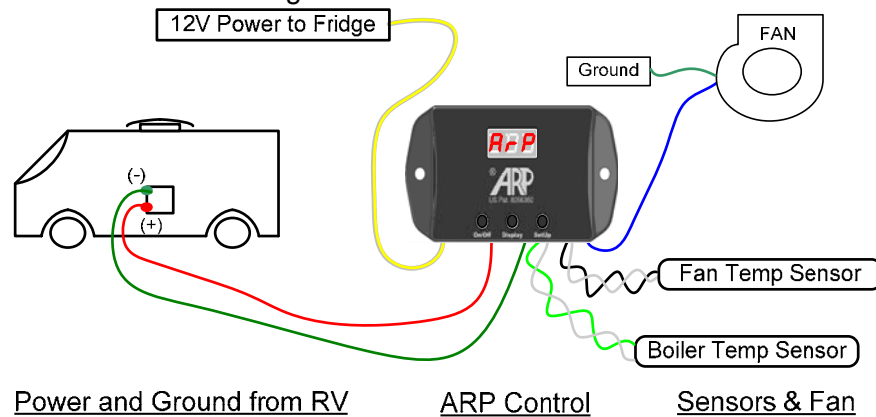
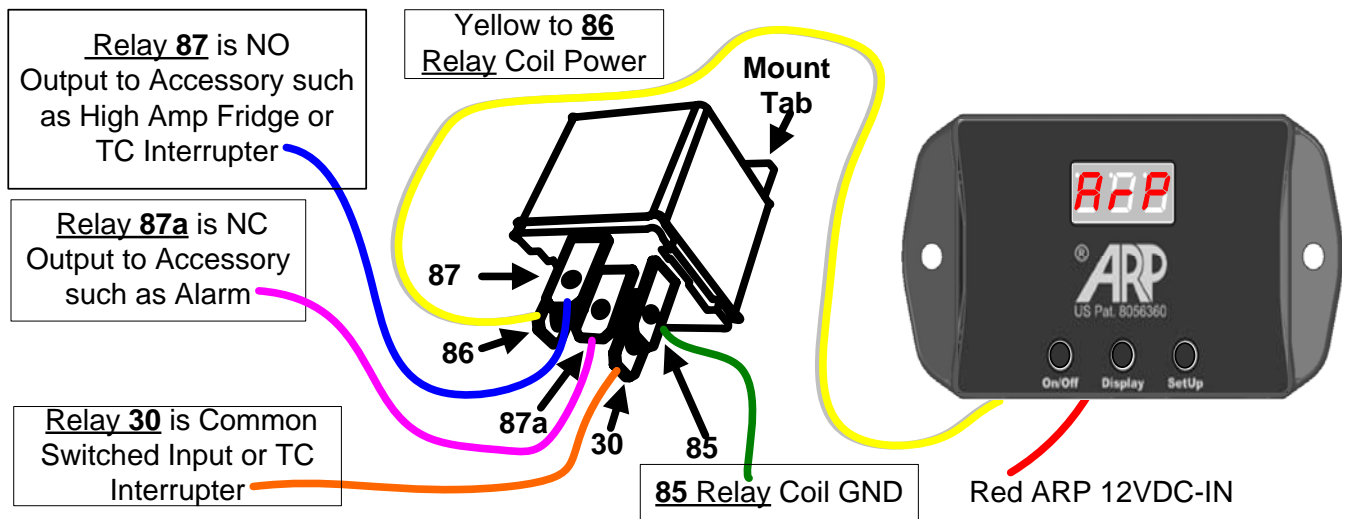

Fig. 1 ARP + Optional Fan Control Kit with General Wiring
Fig. 12 Optional Fridge Alarm, Remote Mount, or High Amperage Fridge Application
The ARP is not complicated. The entire ARP kit is seen in Fig. 1 as an overview for the installation process. Most of our customers install the control on their own if they have some electrical and mechanical skills. If you do not feel you understand the installation you can contact technical support or have a competent RV technician perform the task. Any RV technician that can replace a refrigerator or that is certified has the ability to install this control due to the simplicity.
- 2) Use a remote relay similar to the earlier versions of the ARP Control. This method is shown in Fig. 12 where the power to the fridge would enter the relay at terminal 30 and the power would exit the relay at terminal 87.
**DANGER** We recommend that you disconnect your RV from shore power and disconnect the batteries before performing any wiring. RV manufactures should fuse the power supply to the fridge. The owner of the ARP Control needs to confirm the fridge power supply has proper circuit protection. For example, referencing Fig. 1 the yellow wire that supplies power to the fridge control and the blue wire that supplies power to fans shall not exceed 3.5A each. Most fridge controllers or fans do not exceed 2A when functioning properly therefore for most applications where the ARP Control is not powering 12VDC heaters or other high amperage loads associated with the fridge the ARP should perform fine. Please see Fig. 12 for high amperage applications. Install inline fuses of proper amperage and/or contact support if in doubt.
Fig. 12 shows the recommended Tyco relay P/N 0-1432793-1. This relay is the only type